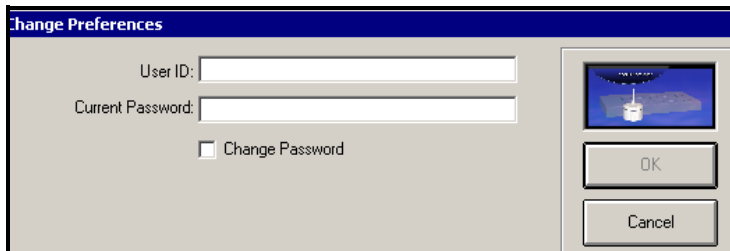

Figure 23: Change Preferences Dialog Box
1. On the Kaye ValProbe Main Menu, click the **Preferences** tab. The Change Preferences (Figure 23 below) dialog box appears.